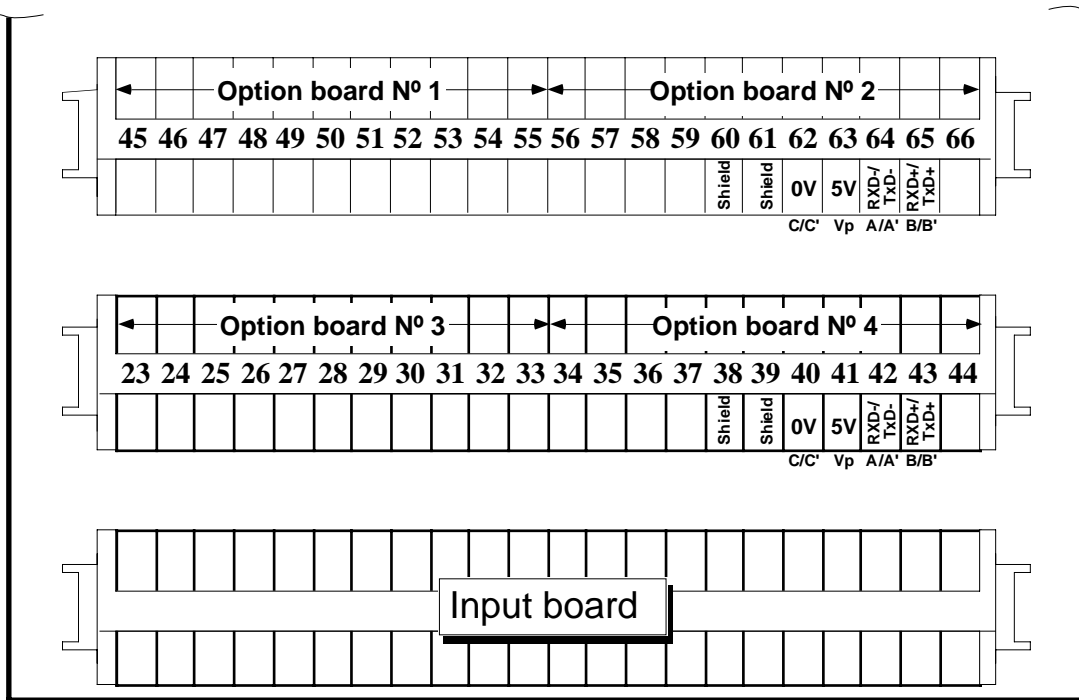
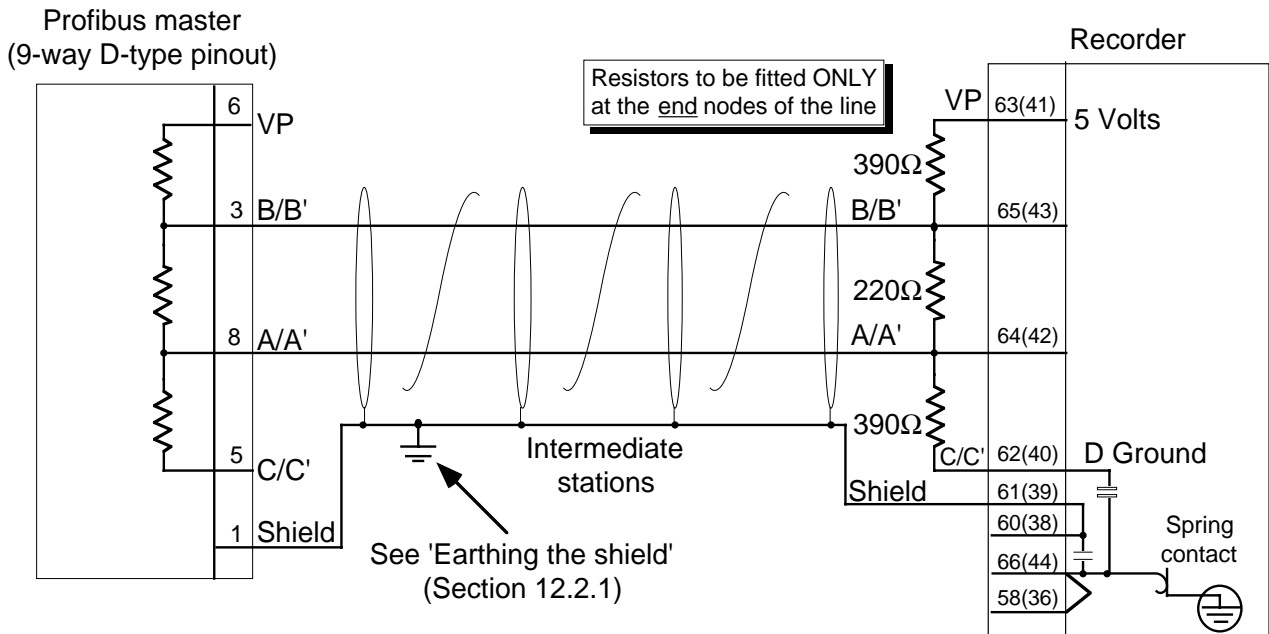

Figure 12.2.1a Communications Pinout
Figure 12.2.1b Communications wiring and termination
The wiring to the PROFIBUS option board is terminated as shown in figures 12.2.1a ( pinout), and figure 12.2.1b (termination, biasing and shielding arrangement). Note that only one Profibus board can be fitted, and this may be fitted only at slot 2 or at slot 4.
1. Check wiring, verifying the continuity of A and B connections to the master, and ensure that the correct terminals have been used. Figure 12.2.1a above, shows the terminations for this unit.
7. Ensure that the final node on the transmission line (no matter what type of instrument it is) is terminated correctly using three resistors as shown in figure 12.2.1b above, and that only the first and final nodes are so terminated.